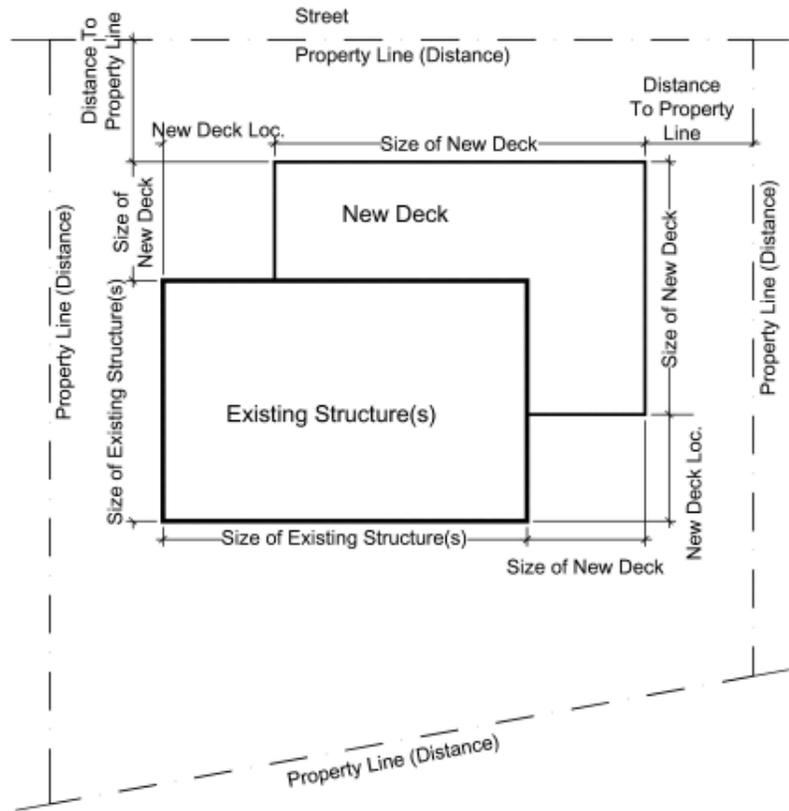

Figure 1: Site Plan
1. Required **Site Plan** information (See Figure 1):